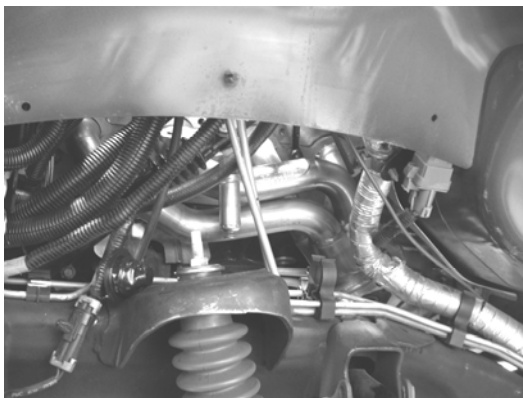

Figure 7
5. From under the vehicle, place the driver side header shown in figure 7 into position using the hardware and gaskets supplied. Torque the Stage 8 locking header bolts to 20-23 ft. lbs. Do not install the locking clips and retainers at this time.